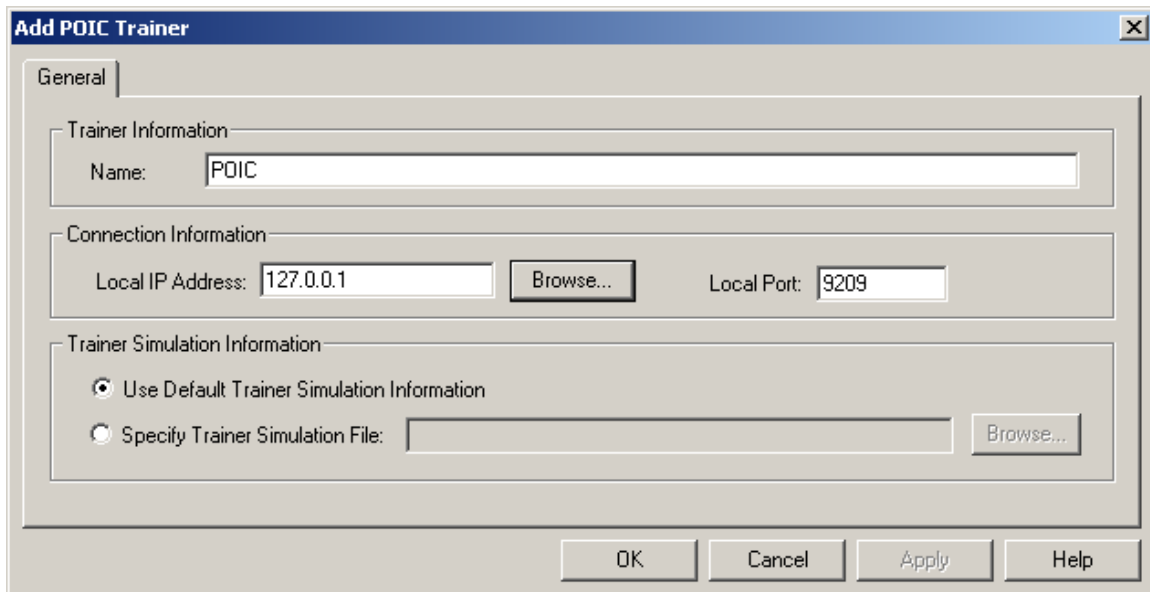

Figure 18 Add POIC Trainer Dialog
6. Go to the **Trainer** menu and select **Add POIC Trainer**. The **Add POIC Trainer** dialog as shown in Figure 18 will appear.